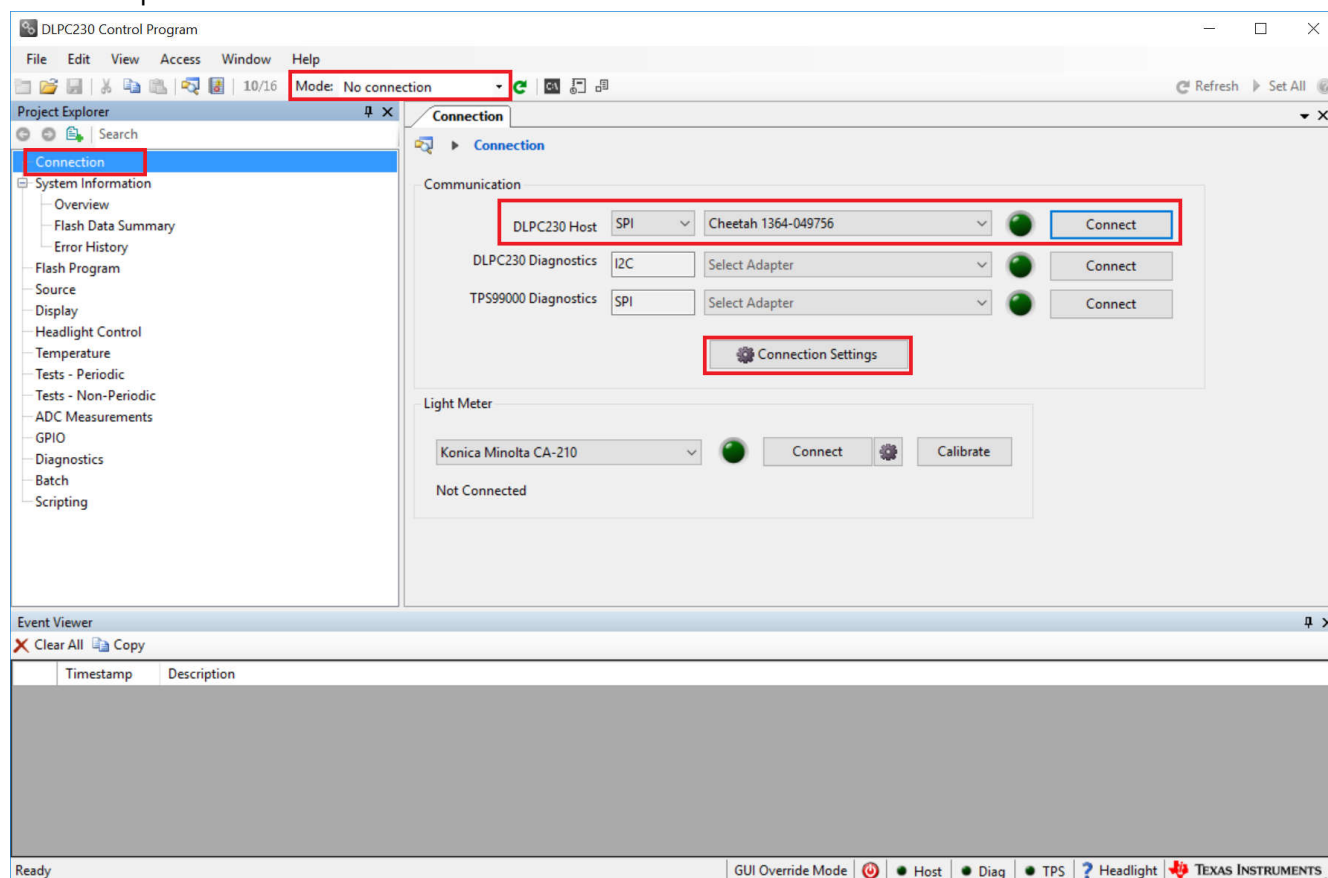

Figure 2-2. Connecting to the DLPC230-Q1 Using the DLPC230-Q1 Automotive Control Program
2. On the connection page set the DLPC230-Q1 Host to SPI and select the Cheetah from the drop down menu (see Figure 2-2). Note that the Cheetah must be connected to computer with USB cable for it to show up in the drop down box.